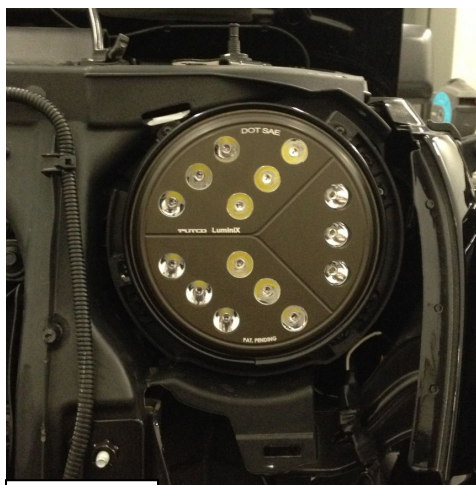

Figure 1
5. Install Putco light into jeep by plugging in light into harness, using factory retaining ring and screws. Driver side light will be installed in the orientation shown in Figure 1. Passenger side will be in the opposite orientation.